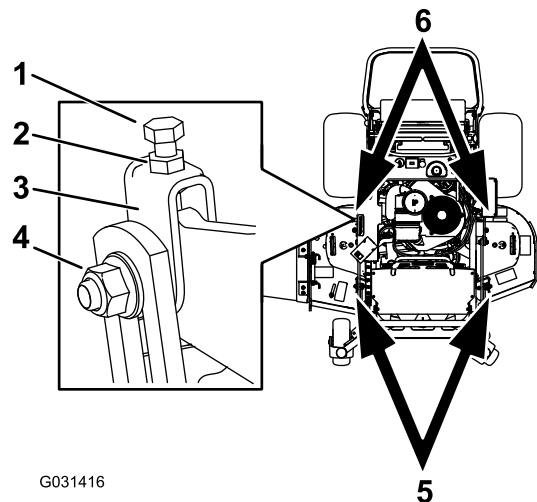

Figure 90
1. Loosen the jam nut and side bolt in the yokes that you want to adjust (Figure 90).
2. Rotate the top bolt of the yokes to adjust the height of the mower deck (Figure 90).
5. If the measurement is not correct, locate the front 2 yokes on the machine (Figure 90).